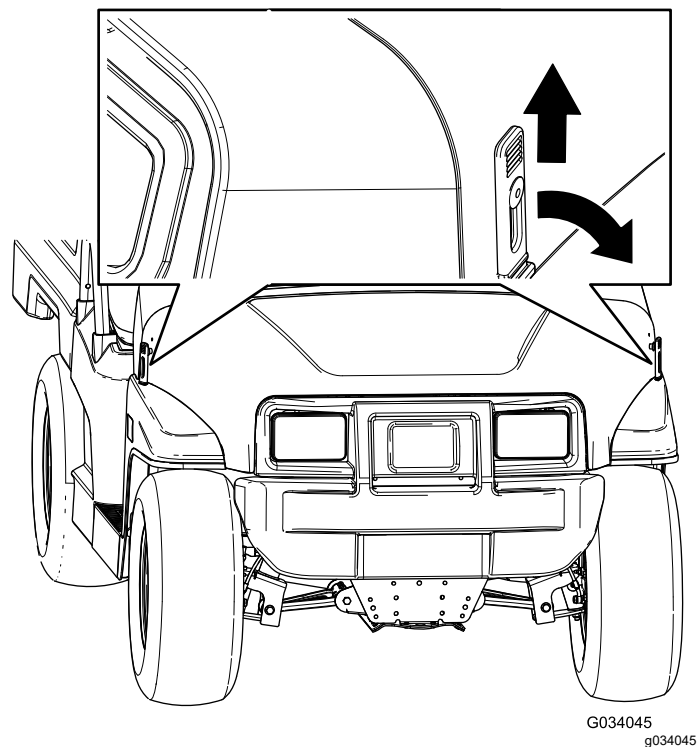

Figure 24
1. Lift up the handle of the rubber latches on each side of the hood (Figure 24).
2. Secure the hood by aligning the rubber latches onto the latch anchors on each side of the hood (Figure 24).